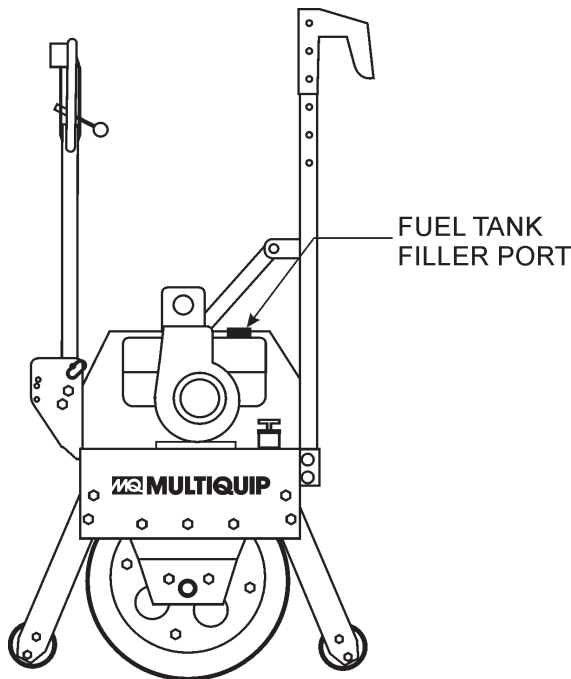

Figure 12. Fuel Tank Filler Port
**NEVER** fill the fuel tank (Figure 12) while the engine is running or in the dark. Fuel spillage on a hot engine can cause a fire or explosion. If fuel spillage occurs, wipe up the spilled fuel completely to prevent fire hazards.